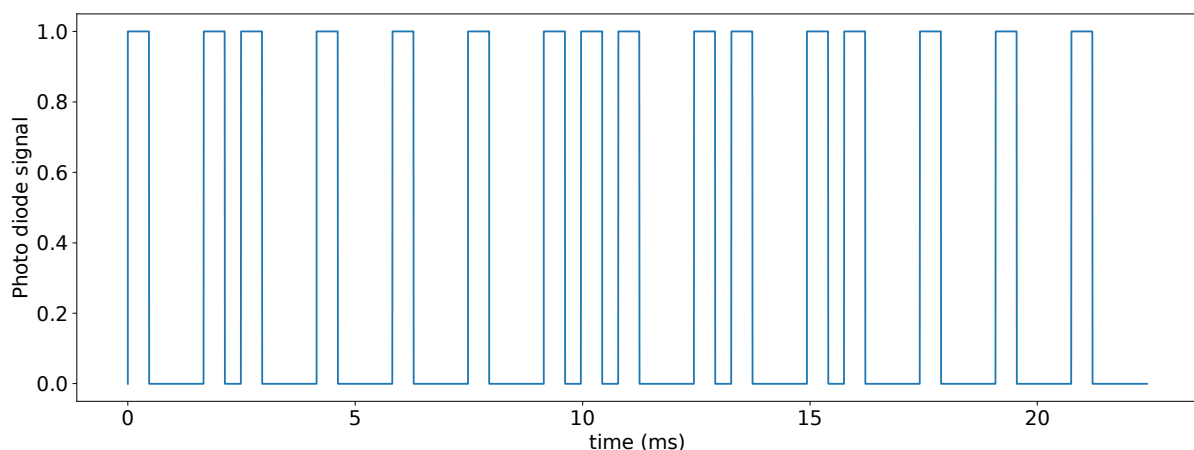

Figure 1: The IR trace for the ON/OFF command bytes.
- The command bytes for the ON/OFF function is given in Figure 1 as an oscilloscope 1 trace.